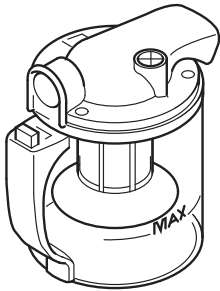

Fig.17
■ Empty the dust container at the latest when the "Max" mark (Fig. 17) has been reached or when it is losing suction power.